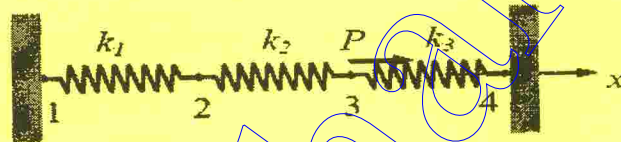

Figure 1 Spring System Assembly
- (b) For the spring system shown in Figure 1, calculate the global stiffness matrix, displacements of nodes 2 and 3, the reaction forces at node 1 and 4. Also calculate the forces in the spring 2. Assume, $k_1 = k_3 = 100$ N/m, $k_2 = 200$ N/m, $u_1 = u_4 = 0$ and $P = 500$ N.